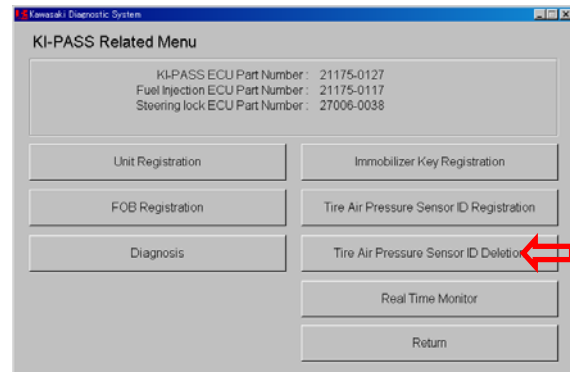

Fig. 5-17 KI-PASS Related Menu
- Select "*Tire Air Pressure Sensor ID Deletion*" on the *KI-PASS Related Menu*. Fig. 5-17
- Select *TPMS ID Registration* on the *KI-PASS Related Menu*. Fig. 5-17